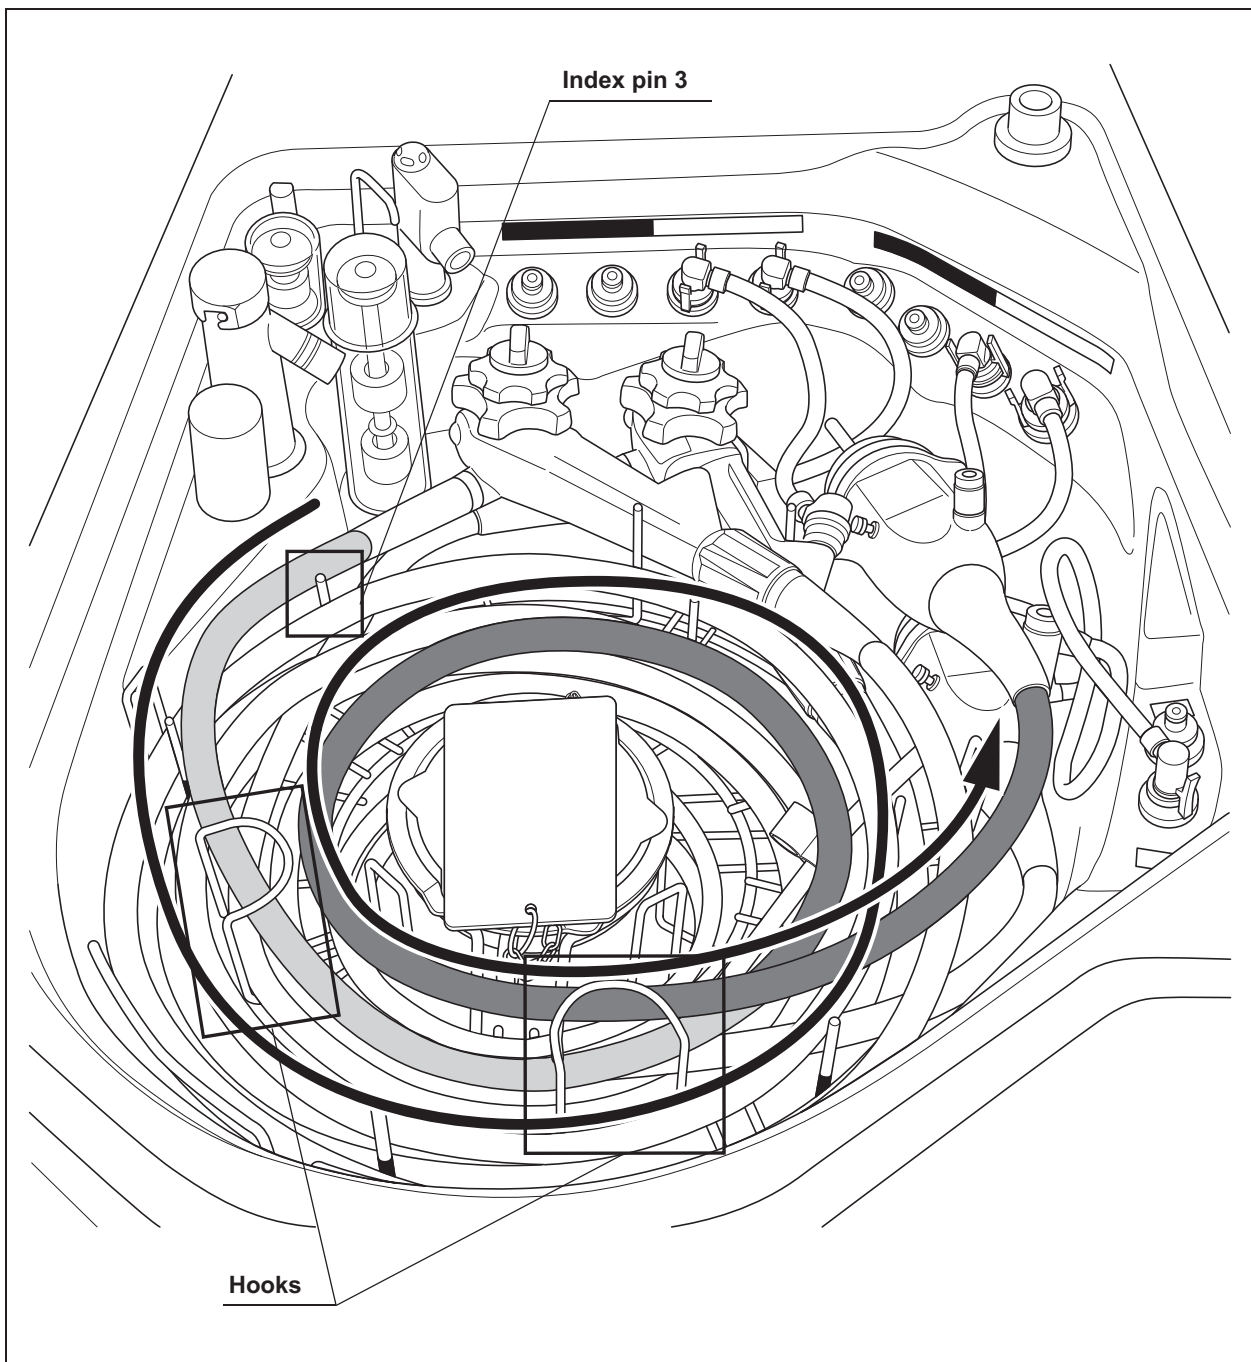

Figure 6.37
- 5 Wrap the universal cord (light and deep gray) in a counterclockwise direction on the left of index pin 3 in the inside section (for detail, refer to the Figure 6.37) on the retaining rack by placing it under the hooks so that it will not move upward. If the scope ID tag is attached to the endoscope, move the scope ID tag toward the endoscope connector. Straighten the ID tag's band if it is twisted. Do not wrap the universal cord of second endoscope on the AW channel cleaning adapters.